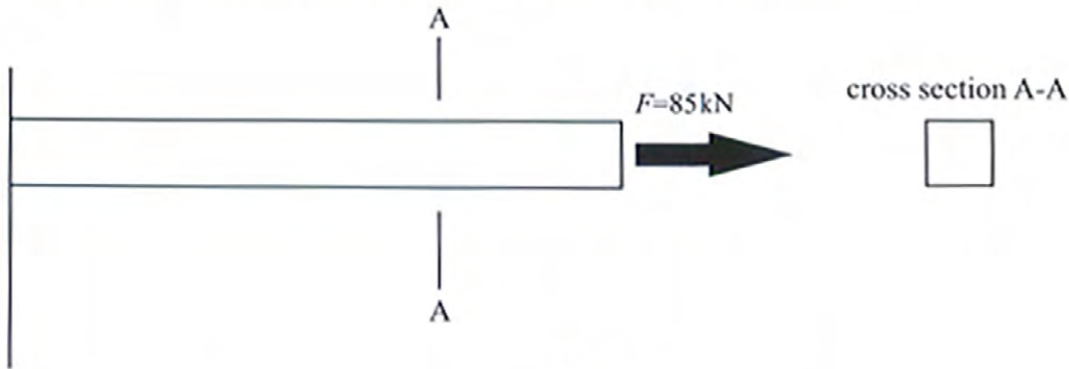

Fig. 5
- (b) Fig. 5 shows a square section beam subjected to a tensile load of 85 kN.